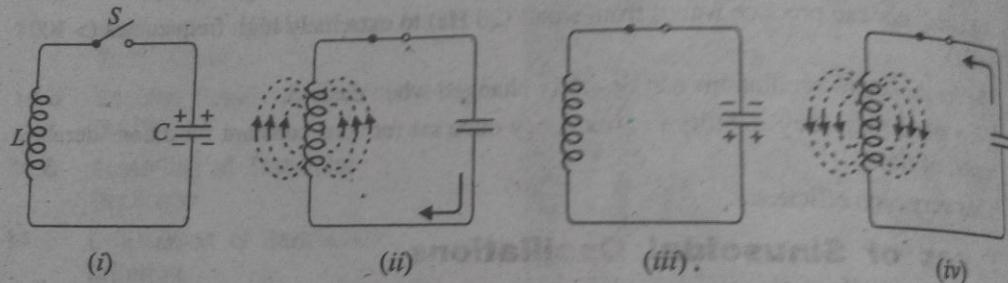

Fig. 14.2
A simple oscillatory circuit consists of a capacitor (C) and inductance coil (L) in parallel as shown in Fig. 14.2. This electrical system can produce electrical oscillations of frequency determined by the values of L and C . To understand how this comes about, suppose the capacitor is charged from a d.c. source with a polarity as shown in Fig. 14.2 (i).
(i) In the position shown in Fig. 14.2 (i), the upper plate of capacitor has deficit of electrons and the lower plate has excess of electrons. Therefore, there is a voltage across the capacitor and the capacitor has electrostatic energy.
(ii) When switch S is closed as shown in Fig. 14.2 (ii), the capacitor will discharge through inductance and the electron flow will be in the direction indicated by the arrow. This current flow sets up magnetic field around the coil. Due to the inductive effect, the current builds up slowly towards a maximum value. The circuit current will be maximum when the capacitor is fully discharged. At this instant, electrostatic energy is zero but because electron motion is greatest (i.e. maximum current), the magnetic field energy around the coil is maximum. This is shown in Fig. 14.2 (ii). Obviously, the electrostatic energy across the capacitor is completely converted into magnetic field energy around the coil.
(iii) Once the capacitor is discharged, the magnetic field will begin to collapse and produce a counter e.m.f. According to Lenz's law, the counter e.m.f. will keep the current flowing in the same direction. The result is that the capacitor is now charged with opposite polarity, making upper plate of capacitor negative and lower plate positive as shown in Fig. 14.2 (iii).
(iv) After the collapsing field has recharged the capacitor, the capacitor now begins to discharge, current now flowing in the opposite direction. Fig. 14.2 (iv) shows capacitor fully discharged and maximum current flowing.
As discussed before, a tank circuit produces damped oscillations. However, in practice, we need continuous undamped oscillations for the successful operation of electronics equipment. In order to make the oscillations in the tank circuit undamped, it is necessary to supply correct amount of energy to the tank circuit at the proper time intervals to meet the losses. Thus referring back to Fig. 14.2, any energy which would be applied to the circuit must have a polarity conforming to the existing polarity at the instant of application of energy. If the applied energy is of opposite polarity, it would oppose the energy in the tank circuit, causing stoppage of oscillations. Therefore, in order to make the oscillations in the tank circuit undamped, the following conditions must be fulfilled :